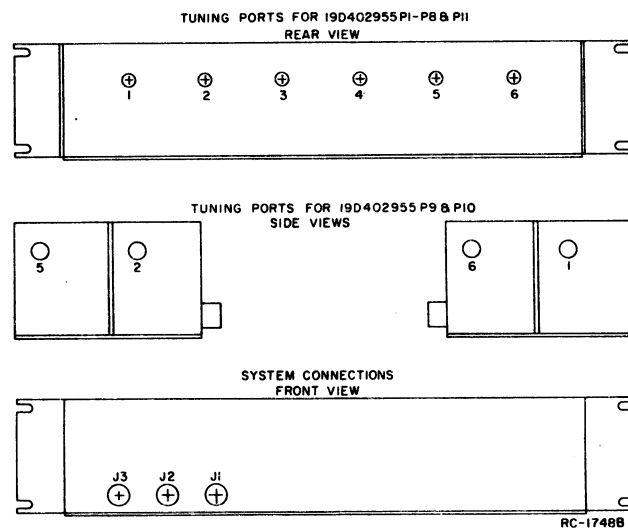

Figure 3 - Duplexer Outline Diagram
2. Remove the plug-buttons from tuning ports 4, 5 and 6 (see Fig. 3). Then loosen the locking nuts on the cavities to be tuned.
- If the receiver frequency is Higher than the transmitter frequency, connect the cables as follows (see Fig. 3):